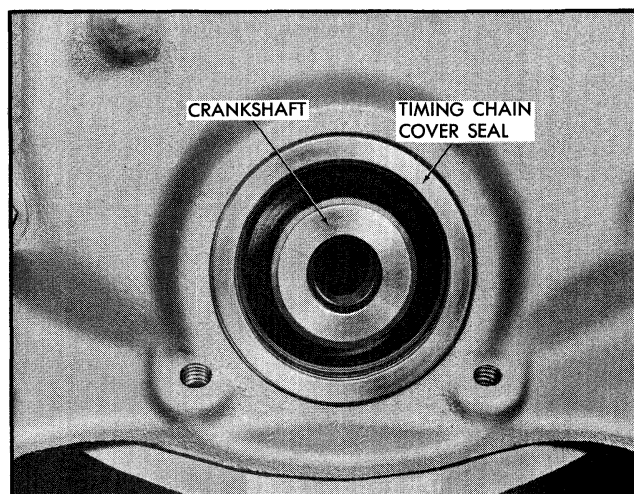

Fig. 6-118 Timing Chain Cover Seal
4. Remove timing chain cover seal by prying out of bore with a pry bar (Fig. 6-118).